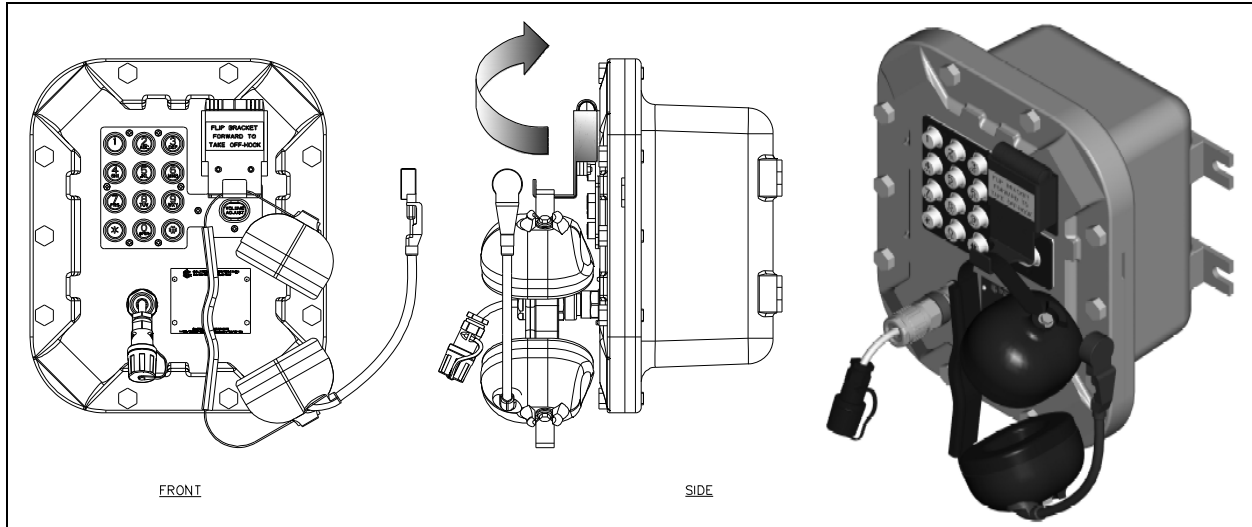

Figure 11. Model 352-703 (On-hook)
3. Screw the two ends together (see Figure 11).